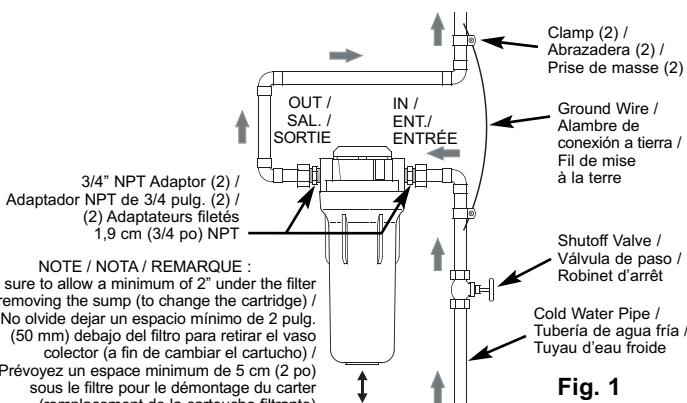

Fig. 1
To filter all house water, install the filtration system on the main (COLD) supply water pipe near where it enters the house (See Figure 1).
3. Cut out a section of the COLD water supply pipe several inches long, as needed to install the filter as shown in Figure 1.
5. With the IN side of the water filter toward the incoming water, make connections, as shown in Figure 1. When tightening compression nuts, be sure to use a second wrench to hold the 3/4" NPT fitting while turning the nut.
The house cold water pipe is often used to ground electrical outlets in the home. Grounding protects you from electrical shock. Installing the water filter may have broken this ground. To restore, buy and install a #4 copper wire across the filter, tightly clamped at both ends, as shown in Figure 1.
Pour filter l'eau de toute l'habitation, installez le système de filtration sur le tuyau principal d'arrivée d'eau FROIDE près de l'endroit où il entre dans la maison (voir figure 1).
3. Coupez une section du tuyau d'arrivée d'eau FROIDE sur plusieurs centimètres, assez pour installer le filtre tel qu'ilustré à la figure 1.